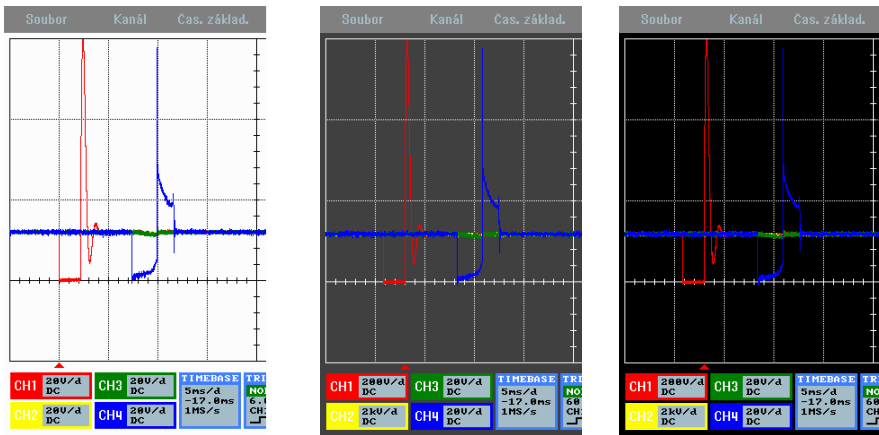

Figure 4.43
- *Color scheme:* Here you can change between 3 available oscilloscope background colors (Figure 4.43).